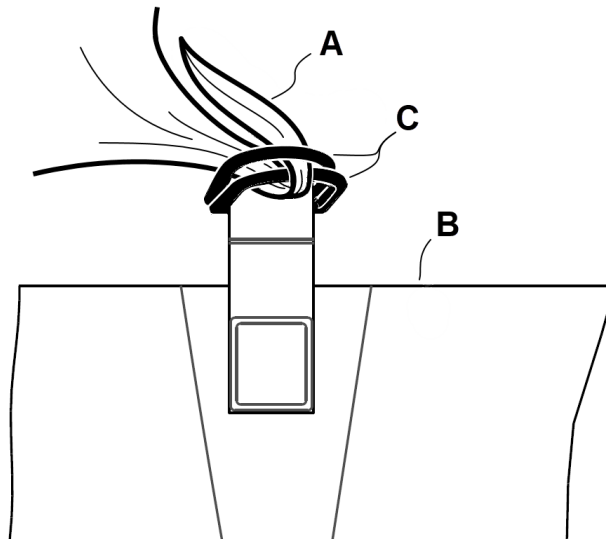

Figure 15 – Apply linens
1. Part the D-rings (C) (Figure 15).
2. Thread the four linen corners through the D-rings (C) attached to the bottom cover to secure the linens (A) to the support surface (B).